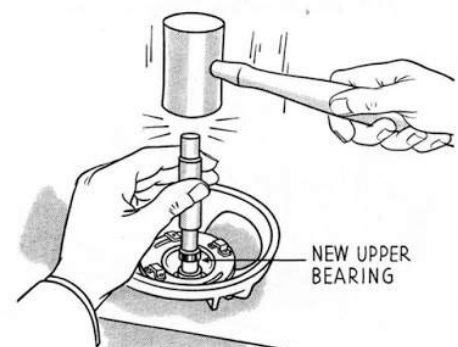

FIG. 61—Installing new upper solid bronze sleeve bearing
4. Insert the new upper bearing from the inside and drive it up through the top of the motor head casting. See Figure 61.